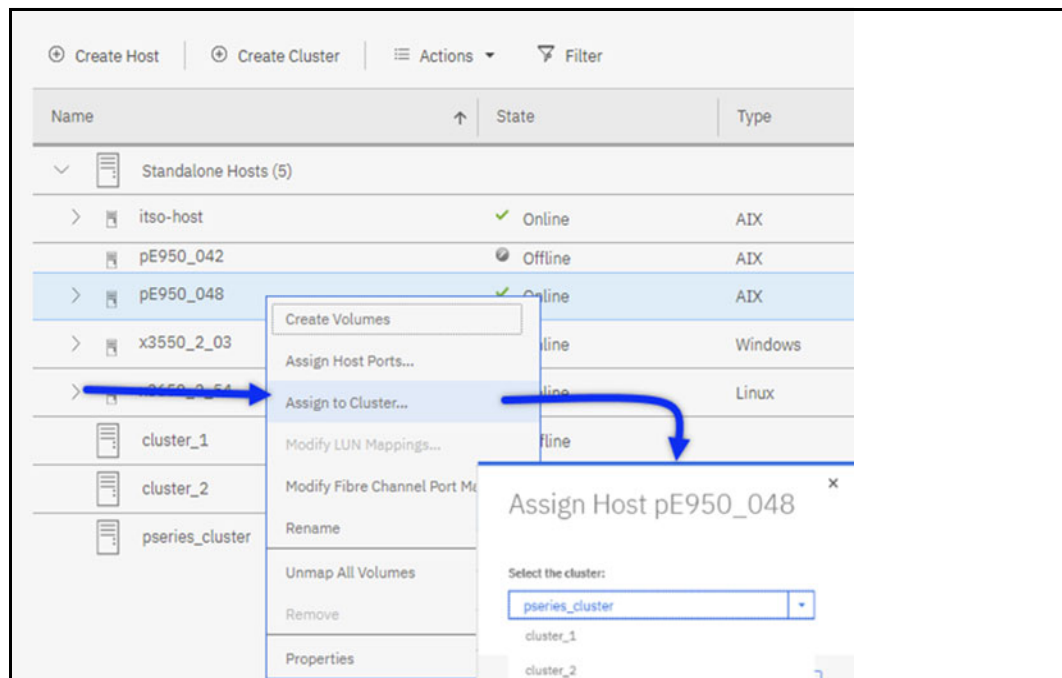

Figure 9-58 Assigning a host to a cluster
2. Either right-click, or from the Actions tab, select **Assign to Cluster**, as shown in Figure 9-58.